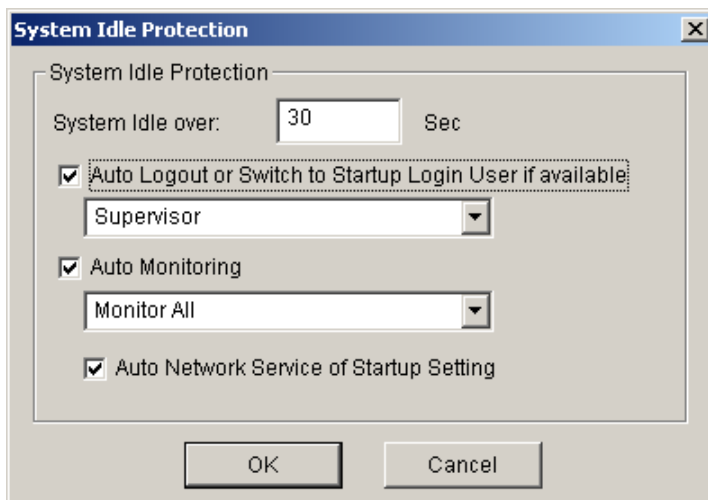

Figure 1-63
4. In the System Idle Protection dialog box (Figure 1-63), select the **Auto Logout or Switch to Startup Login User if available** option, and then select **Supervisor** or **Supervisor, Poweruser** from the drop-down list.
1. In the System Idle Protection dialog box (Figure 1-63), select the **Auto Monitoring** option, and select **Monitoring All**, **Schedule Monitoring** or **I/O Monitoring** from the drop-down list.